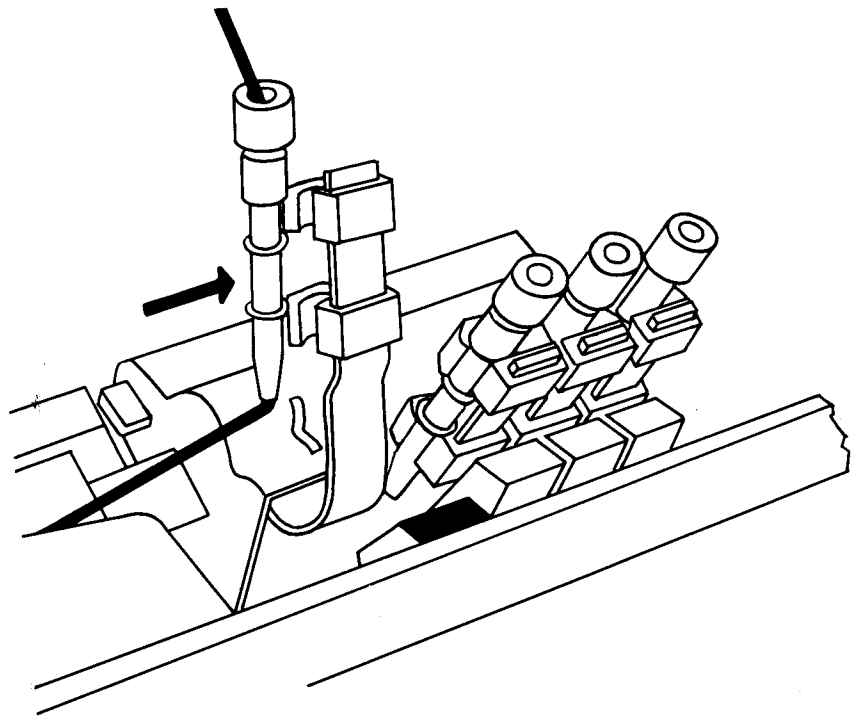

Fig. 15
- Replace feeding eyelet into its support as per Fig. 15 and push down.